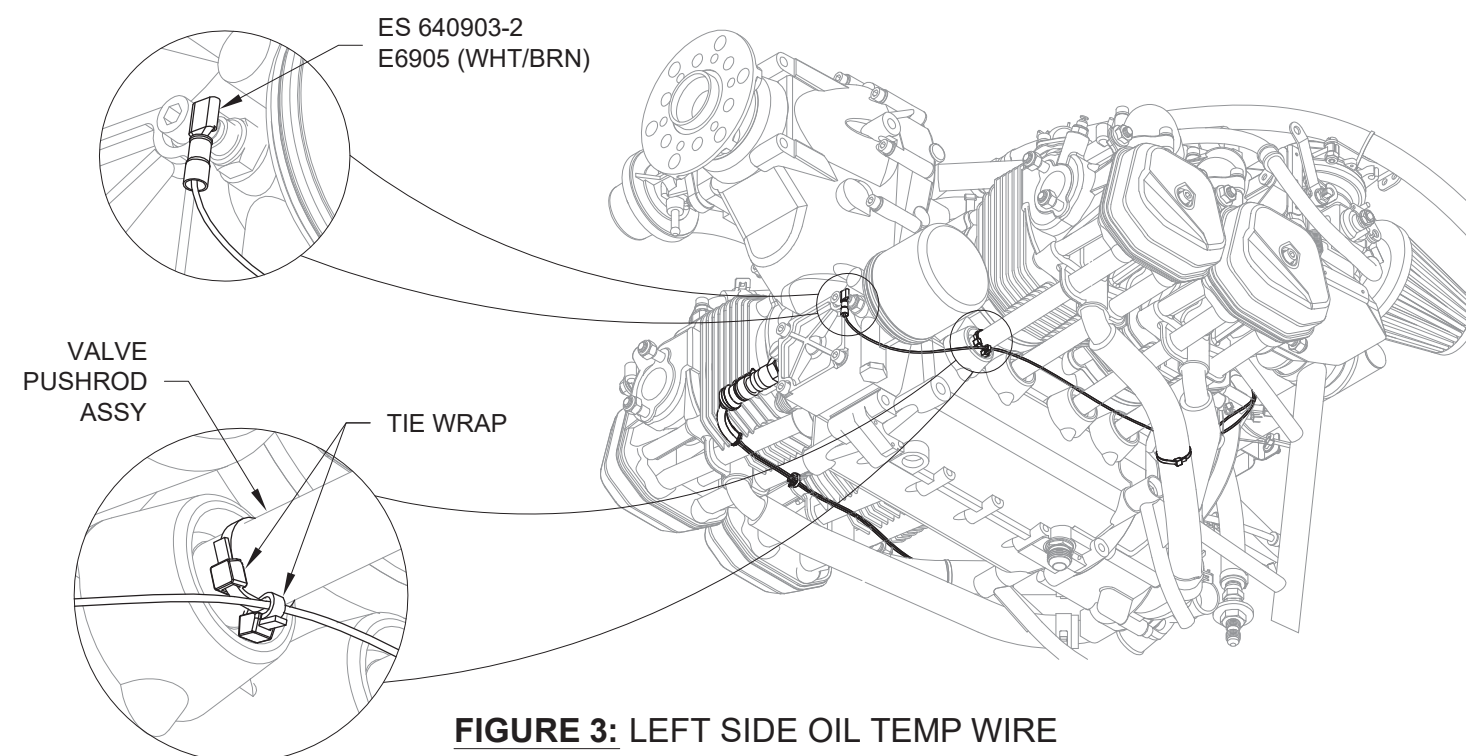

FIGURE 3: LEFT SIDE OIL TEMP WIRE
Step 7: Locate the E6905 (WHT/BRN) Oil Temperature Wire on the WH-00139 and route it forward under the left side of the engine. Secure the wire with tie wraps as shown in Figure 3. Cut the wire to length, strip the end, crimp on the connector and attach it to the terminal post near the base of the oil filter as shown in Figure 3.